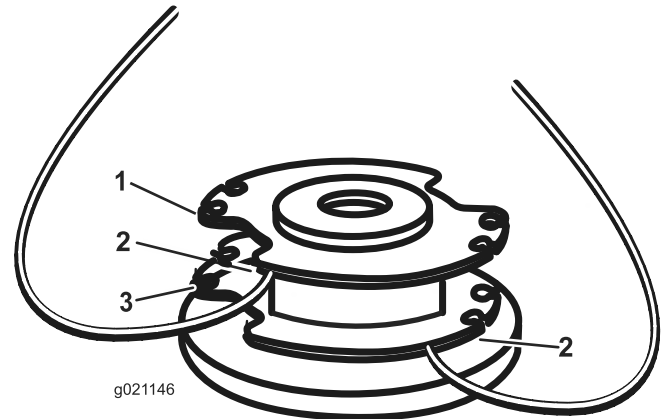

Figure 20
4. Insert the string into the anchor holes in the upper part of the spool (Figure 20). Wind the string onto the spool in the direction shown by the arrows on the spool.